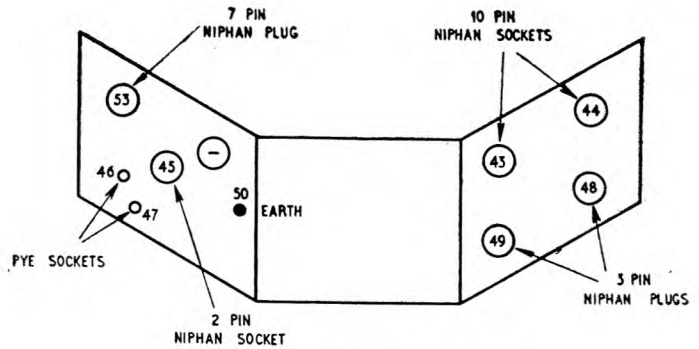
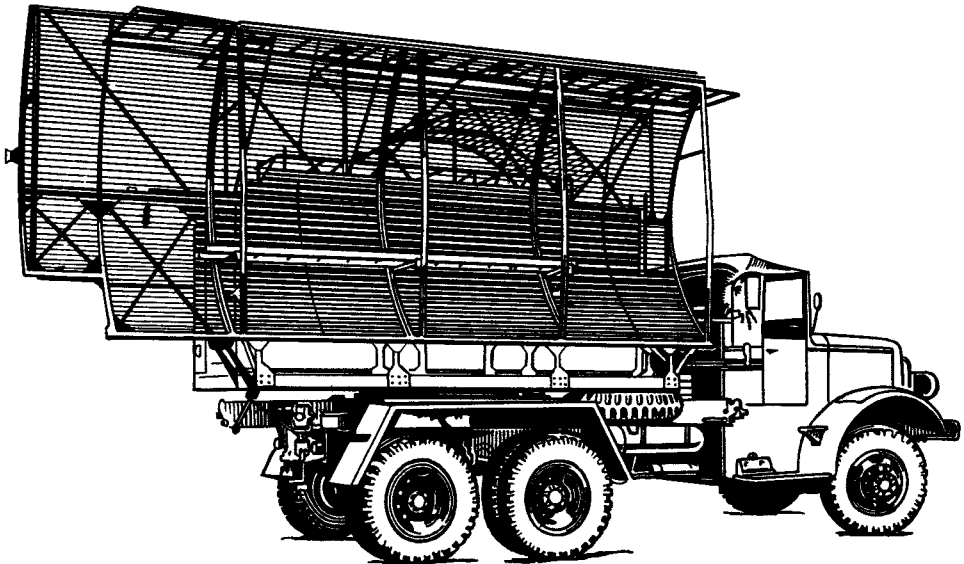

Fig. 4. R.V.462C : termination box
Fig. 13. R.V.462C in transit condition (right-hand side)
(1) Three IFF connectors (Numbered 53, 80 and 81).
(2) The connector for the refrigerating plant (No. 59) which is supplied with radio vehicle Type 181B.
(3) The cables for linking the power vehicles which are supplied with them.
(4) The telephone cables.
(5) Cable No. 70 which is supplied with radio vehicle Type 467.
6. There may not be identification numbers on the plugs and sockets of the aerial vehicle termination boxes but the correct connections can be determined by reference to fig. 4 and 5. In the case of the operations vehicle termination box the plugs and sockets are numbered, but not in agreement with the cable numbers; the correct connections can be made by referring to fig. 13 which is a cabling diagram for the complete installation. This diagram should be followed carefully for it is very easy to plug some of the cables into wrong positions.